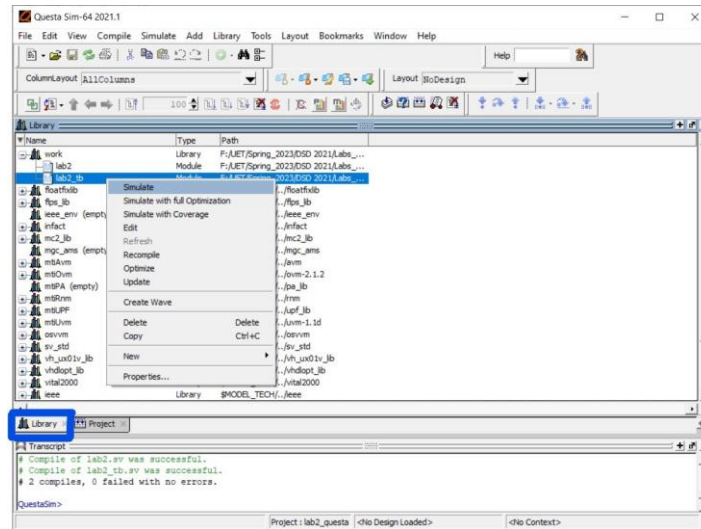

Fig. 2.10: Start Simulation.
- Then go to *Library* tab. Expand the *work* tab and click the test bench file (in our case lab2 tb). And select *Simulate*. (Fig. 2.10).